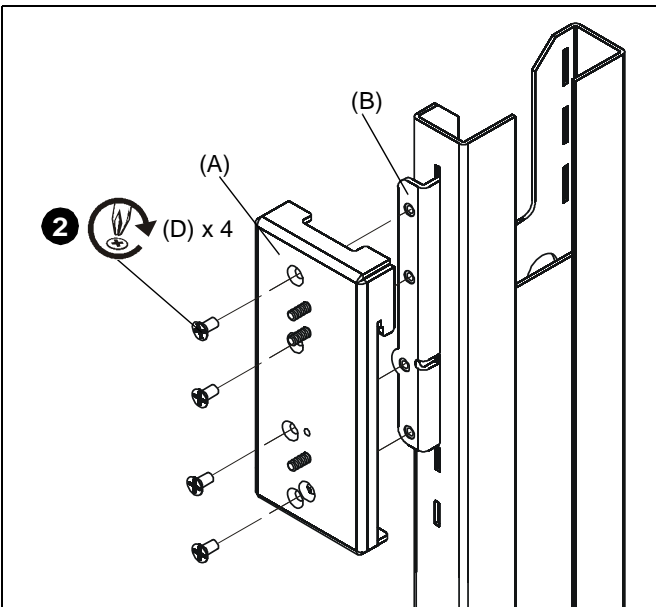

Figure 2
2. Secure main bracket (A) to vertical hooks bracket (B) by installing four #10-24 x 5/8" Phillips flat head machine screws (D) through holes in both brackets. (See Figure 2)